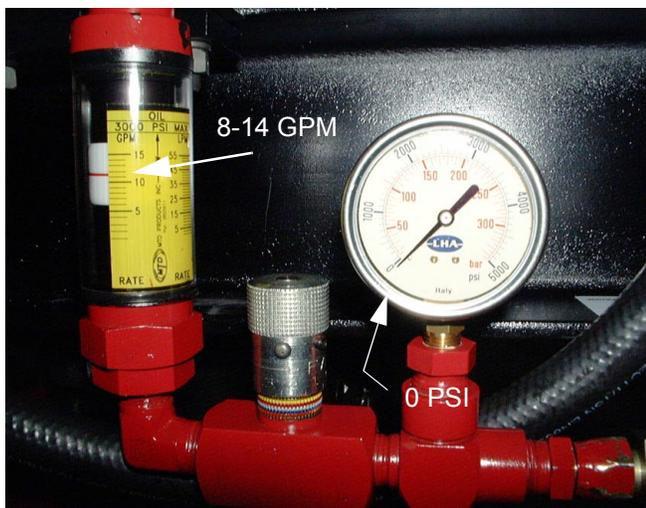

Figure 4
- Record the GPM of the fluid flow at the flow meter. ____ See Figure 4.